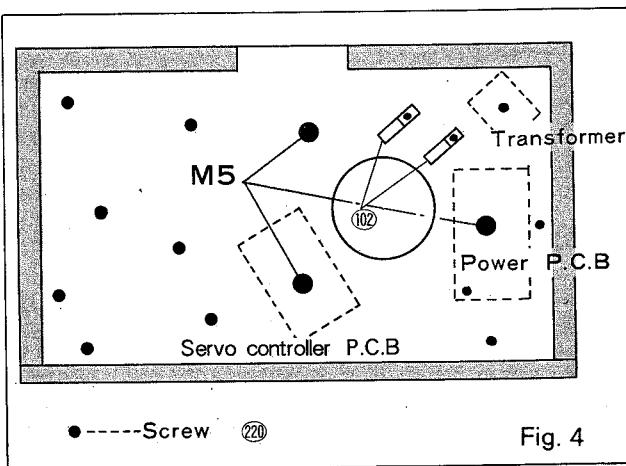

Fig. 4
- cabinet (Fig. 4).
(3) Remove the terminal plate ⑨.